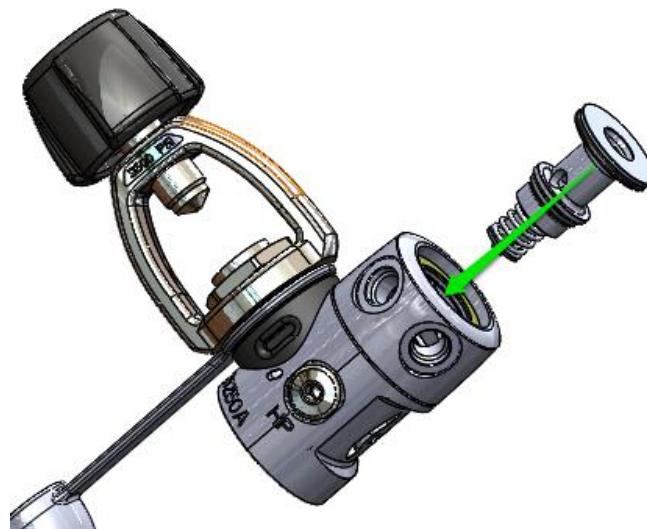

Fig. 38
- e. Install the assembled Receiver 8041.8 Into the body. Using a ¼ Hex drive socket and torque wrench tighten the receiver to 80 – 100 in -lbs. (9.0 – 11.3 N-m) (Fig. 38).